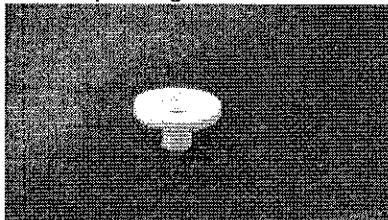

figure 3
- 2.5 Remove plastic grommets from hardware kit, two per active panel (see figure 3 below).